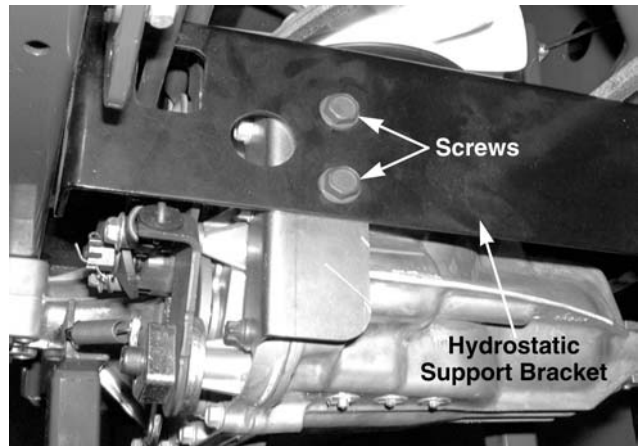

**Figure 9-58**
19. Remove the brake extension spring from the brake rod using a pair of vice grips. See Figure 9-58.